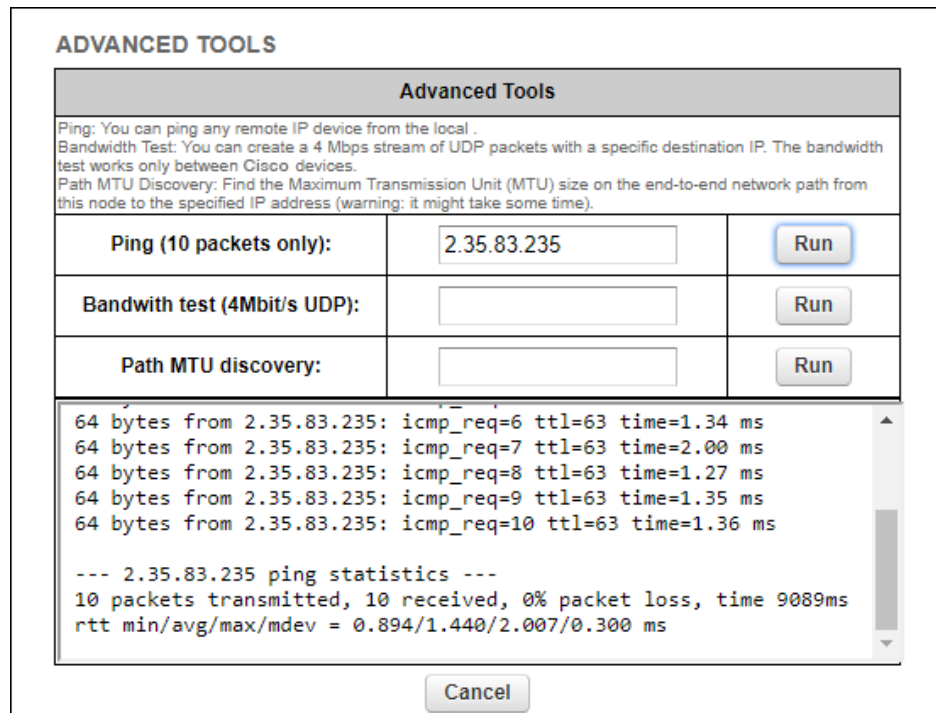

Figure 24. Advanced Tools window (Ping test tool)
2. Enter the IP address of the other unit in the **Ping (10 packets only)** field (Figure 24 \(page 70\)).